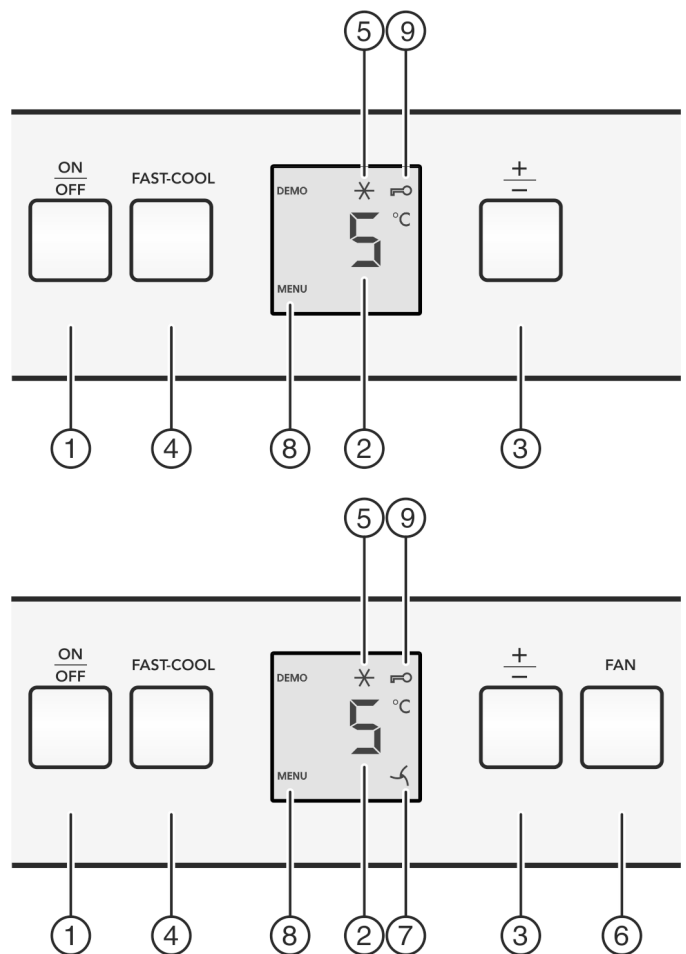

Fig. 2
- ▶ Press the On/Off button *Fig. 2 (1)*.
- ▶ Press the Fast Cool button *Fig. 2 (4)* for approx. 5 seconds.
- ▷ The Menu symbol is shown on the display, *Fig. 2 (8)*.
- ▶ Briefly confirm using the Fast Cool button *Fig. 2 (4)*.
- ▷ The child lock symbol, *Fig. 2 (9)*, lights up on the display.
- ▶ Briefly press the On/Off button *Fig. 2 (1)*.
- ▶ Call up the temperature function: Press the "+/-" setting button *Fig. 2 (3)*.
- ▶ Change the temperature in 1 °C steps: Press the "+/-" setting button *Fig. 2 (3)* until the required temperature is indicated in the temperature display.
- ▶ Briefly press the Fast Cool button *Fig. 2 (4)*.
- ▷ The Fast Cool symbol *Fig. 2 (5)* illuminates in the display.
- ▷ The Fast Cool symbol *Fig. 2 (5)* goes out in the display.
- ▶ Briefly press the fan button *Fig. 2 (6)*.
- ▷ The fan symbol *Fig. 2 (7)* illuminates.